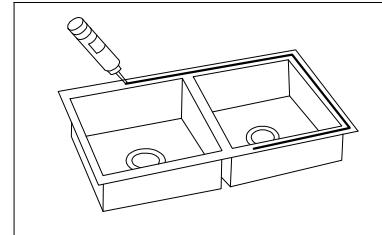

Figure 4
7. Clean sink flange and underside of cutout area of countertop, making sure that the area is smooth and free of grease. MUST use 100% silicone for this installation. Apply continuous bead of silicone caulk evenly on top of sink flange. (FIGURE 4) NEVER perform this procedure outdoor and under sunlight. If performed under an extremely hot and dry climate, the caulking of the sink frame should be performed by two people at the same time.